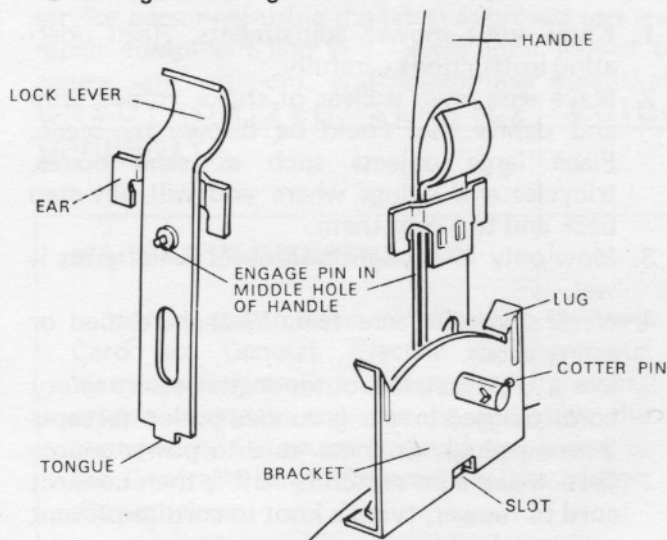

Figure 3. Vertical Lock
Vertical (See Figure 3)
- Return the lever to the position shown in Figure 3 for regular swing-over action.